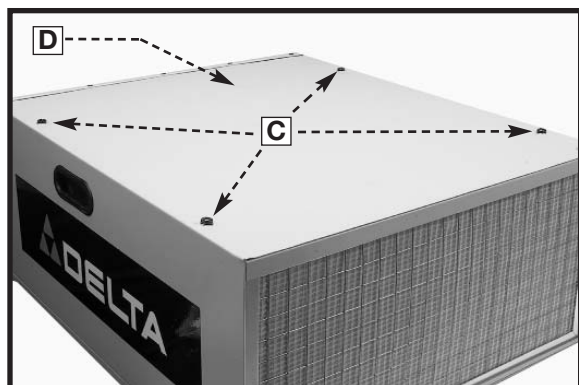

Fig. 5
2. Use a flat blade screwdriver (not supplied) to remove the four screws (C) Fig. 5 from the top of air cleaner (D).